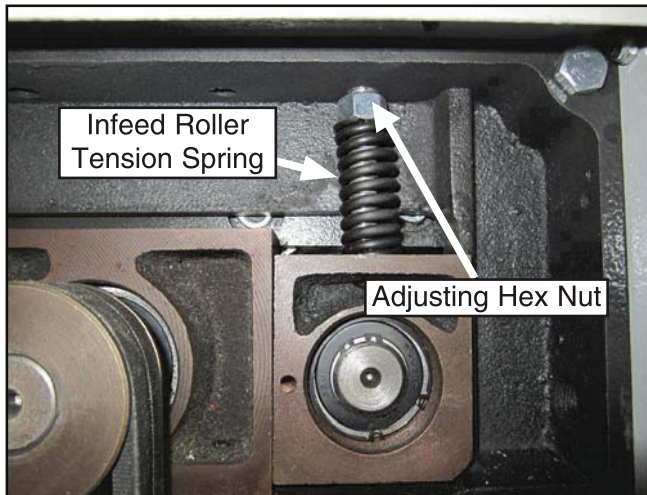

Figure 29. Infeed roller tension spring (left side shown; top left access panel removed).
2. Remove the top right and left access panels and identify the infeed roller tension springs (see **Figure 29**).
3. Adjust the infeed roller tension with the hex nut underneath the tension spring (see **Figure 29**).